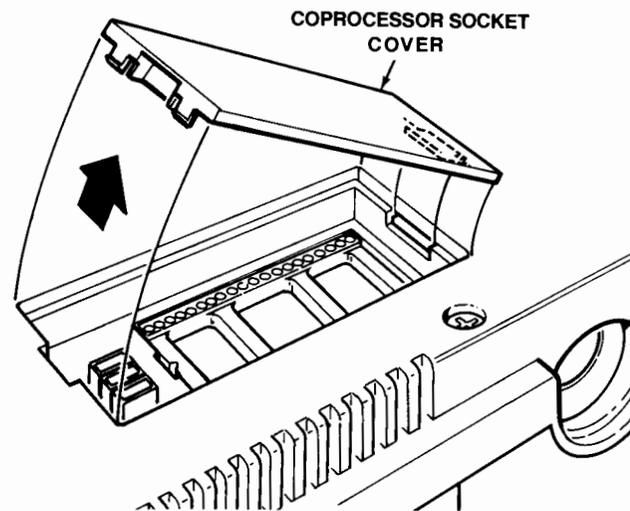

Figure 2-1. Removing the Coprocessor Socket Cover
6. Use a screwdriver to carefully pry up the coprocessor socket cover as shown in Figure 2-1.